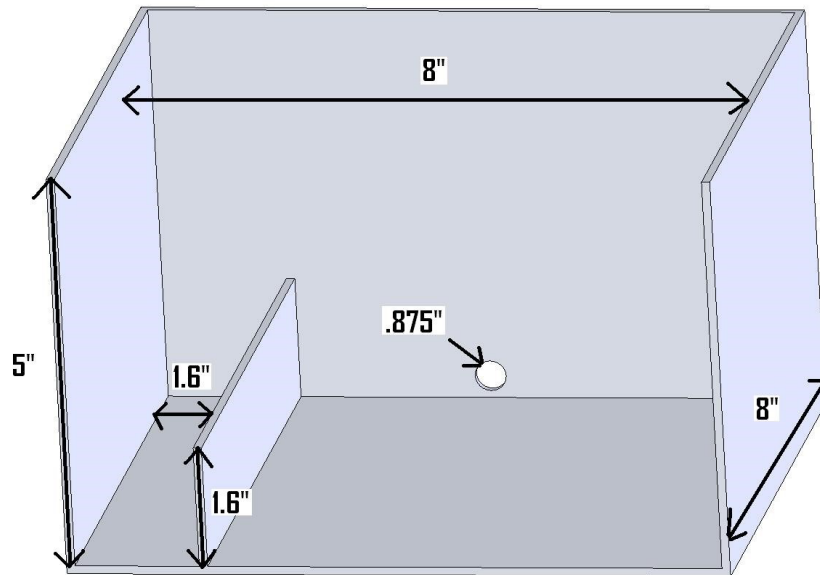
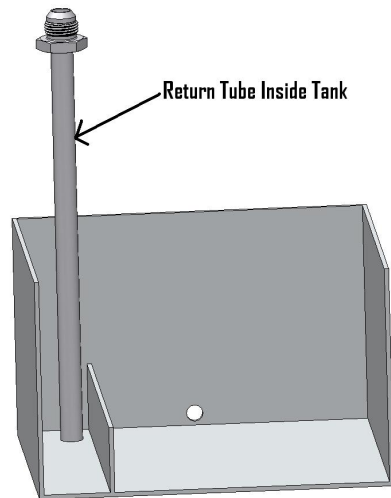

FIGURE 1-2
FIGURE 1-3
4. Construct baffling for the filter pick area. This is key for pump performance and longevity. Typical baffling size is 8x8x5 inches. Please see **Figure 1-2** for reference (front wall of sump not shown for clarity).
5. Drill two .875" holes near the bottom of the baffling running from the front to rear of the vehicle. Also construct an 8" x 1.6" x 1.6" wall along the bottom of the baffle box as shown in **Figure 1-2** for the return to feed into as shown in **Figure 1-3** (tank not shown for clarity). This will keep the fuel calm at the pickup point and reduce the chance of cavitation.